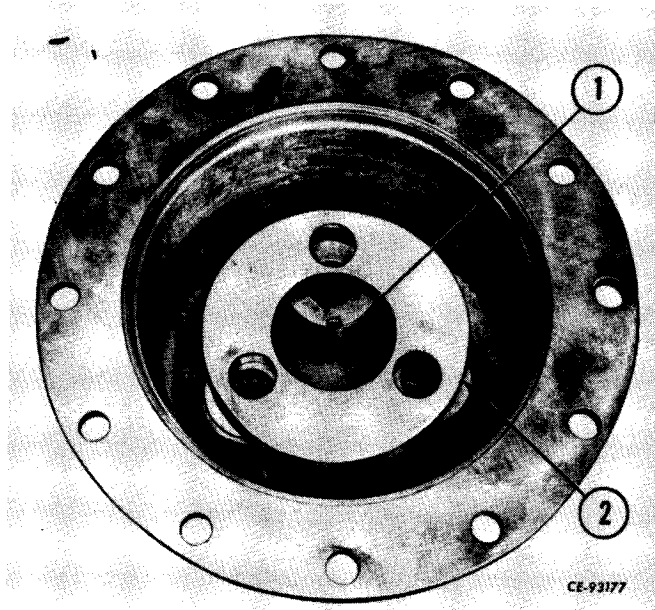

Figure 6-69
Assemble planetary pinions, bearings, spacers and thrust washers. Install pinion assemblies (1, Fig. 6-69) in carrier (2) in their approximate positions. All three pinions must be positioned before any shafts are installed. Be sure thrust washer tabs are aligned with indentation in carrier.